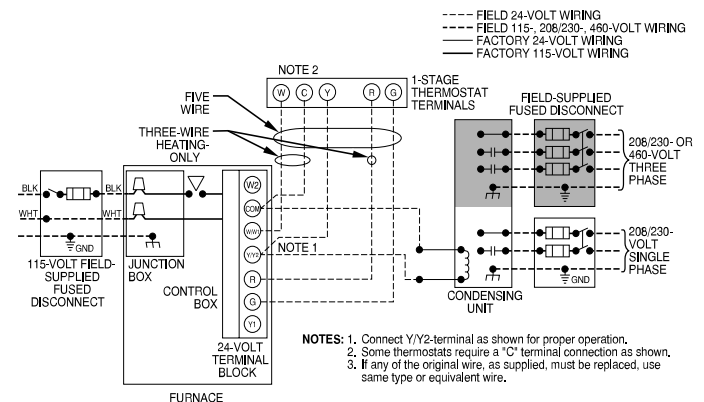

Fig. 34 – Typical Two-Stage Field Wiring Diagram A230059
See Fig. 34 for field wiring diagram showing typical field 115V wiring. Check all factory and field electrical connections for tightness.
6. Connect power cord power and neutral leads to furnace power leads as shown in Fig. 34.
5. Connect field power and neutral leads to furnace power leads, as shown in Fig. 34.
Make field 24V connections at the 24V terminal strip. See Fig. 39. Connect terminal Y/Y2 as shown in Fig. 34 for proper cooling operation. Use only AWG No. 18, color-coded, copper thermostat wire.